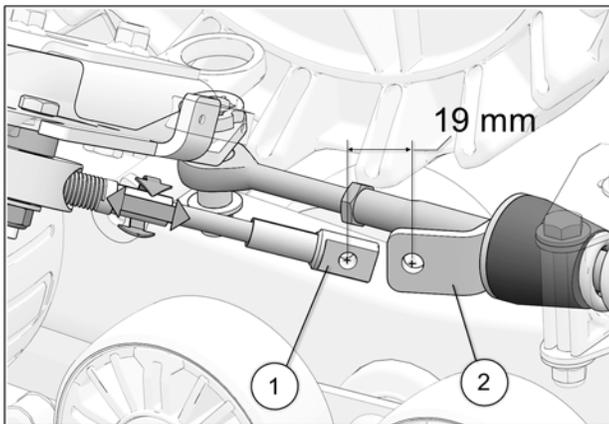

Fig. 28
14. Turn the vehicle's steering wheel to its maximum point of travel on the left. While maintaining pressure on the steering wheel, turn threaded rod to adjust length of cable. See Fig. 28
15. Position cable end hole (1) 19 mm [$\frac{3}{4}$ in.] short of support plate (2) mounting hole. See Fig. 28